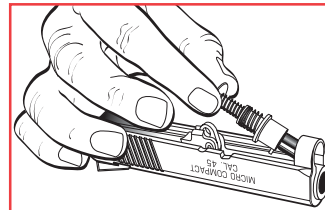

Figure 57-3
5. The recoil spring system can now be removed from the slide. (See fig. 57-3)